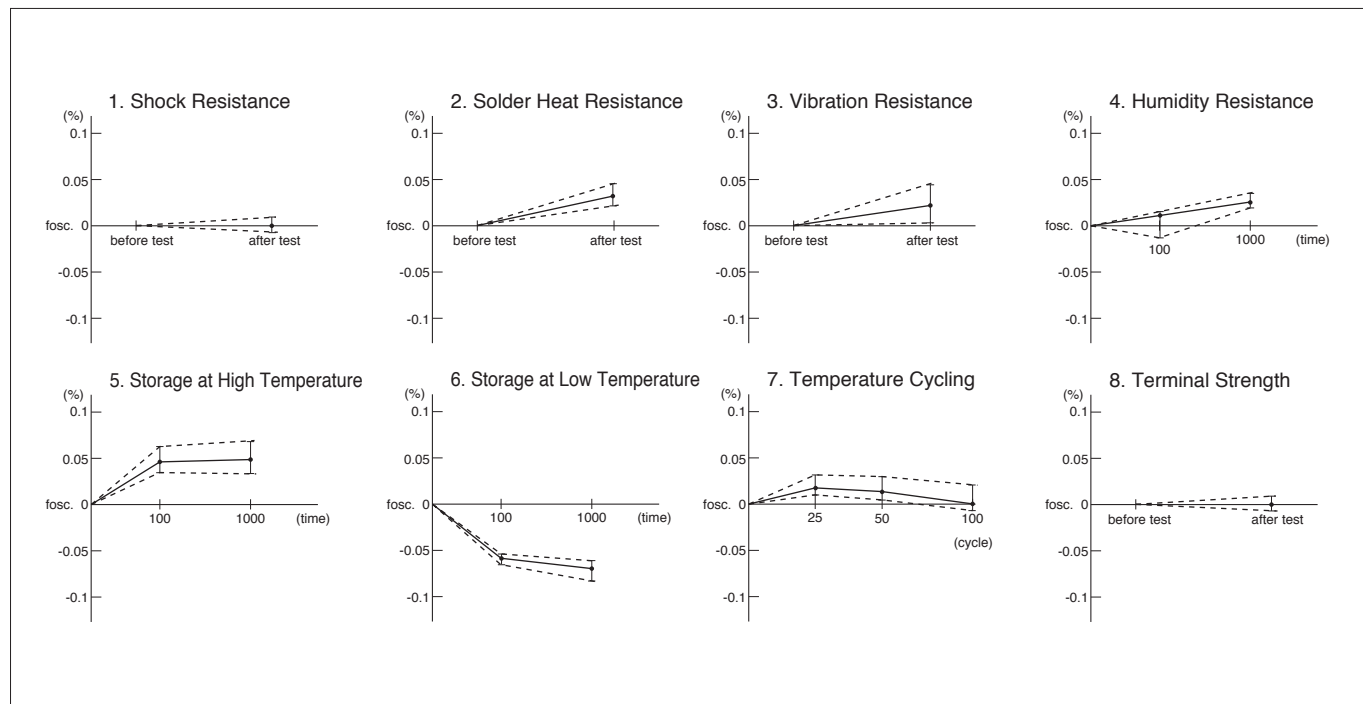
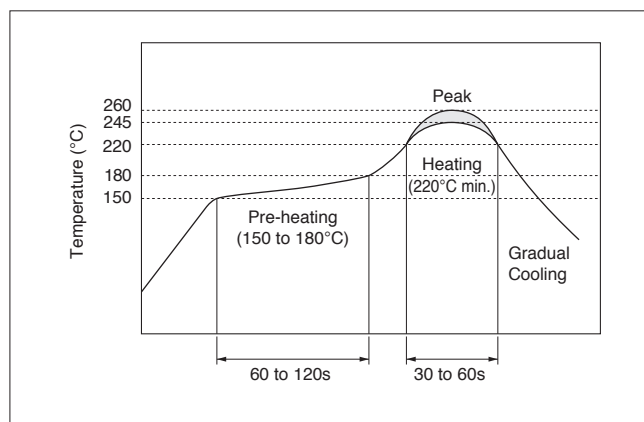

Fig. 3-2 General Changes of Oscillation Frequency in Each Reliability Test (CSTLS4M00G53-B0)
Fig. 3-3 Reflow Soldering Profile for MHz Band Chip CERALOCK®
Fig. 3-2 shows the changes of oscillation frequency in each test, the table on the next page shows the criteria after the tests, and Fig. 3-3 shows the reflow soldering profile.
2. Soldering Heat Resistance	Lead terminals are immersed up to 2.0 mm from the resonator's body in solder bath of [c], and then the resonator shall be measured after being placed in natural condition for 1 hour. *1 Reflow profile show in Fig. 3-3 of heat stress is applied to the resonator, then the resonator shall be measured after being placed in natural condition for 1 hour. *2